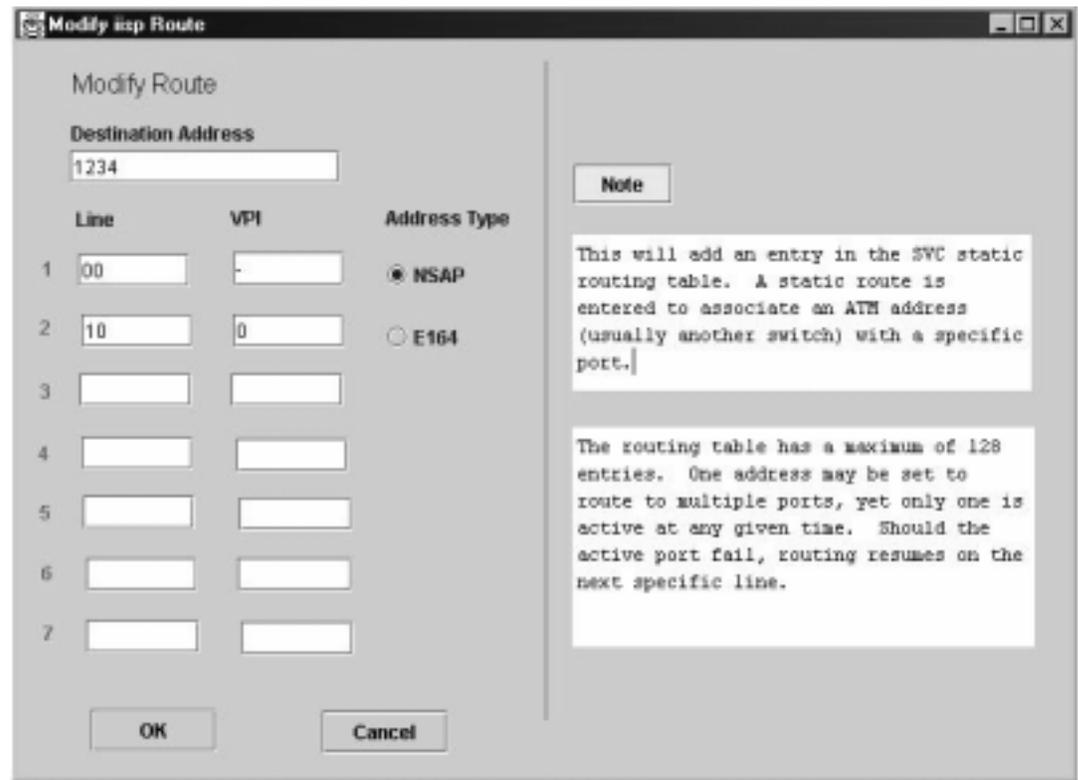

Figure 8-21: Confirm Modify IISP Route Dialog
3. Click **MODIFY**. The **Modify Route** panel displays. See Figure 8-21.